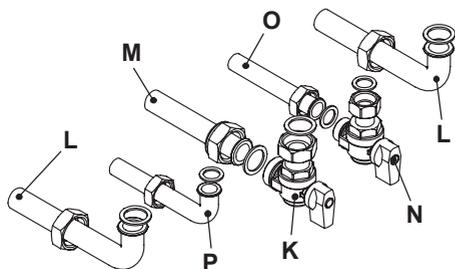

Fig. 6.3
- Fix the gas cock K ( $\frac{3}{4}$ " ) to the boiler using the  $\frac{3}{4}$ " gaskets (Fig. 6.3)
- Fix the ø 22 mm pipe M to the gas cock K using the  $\frac{3}{4}$ " gaskets (Fig. 6.3)